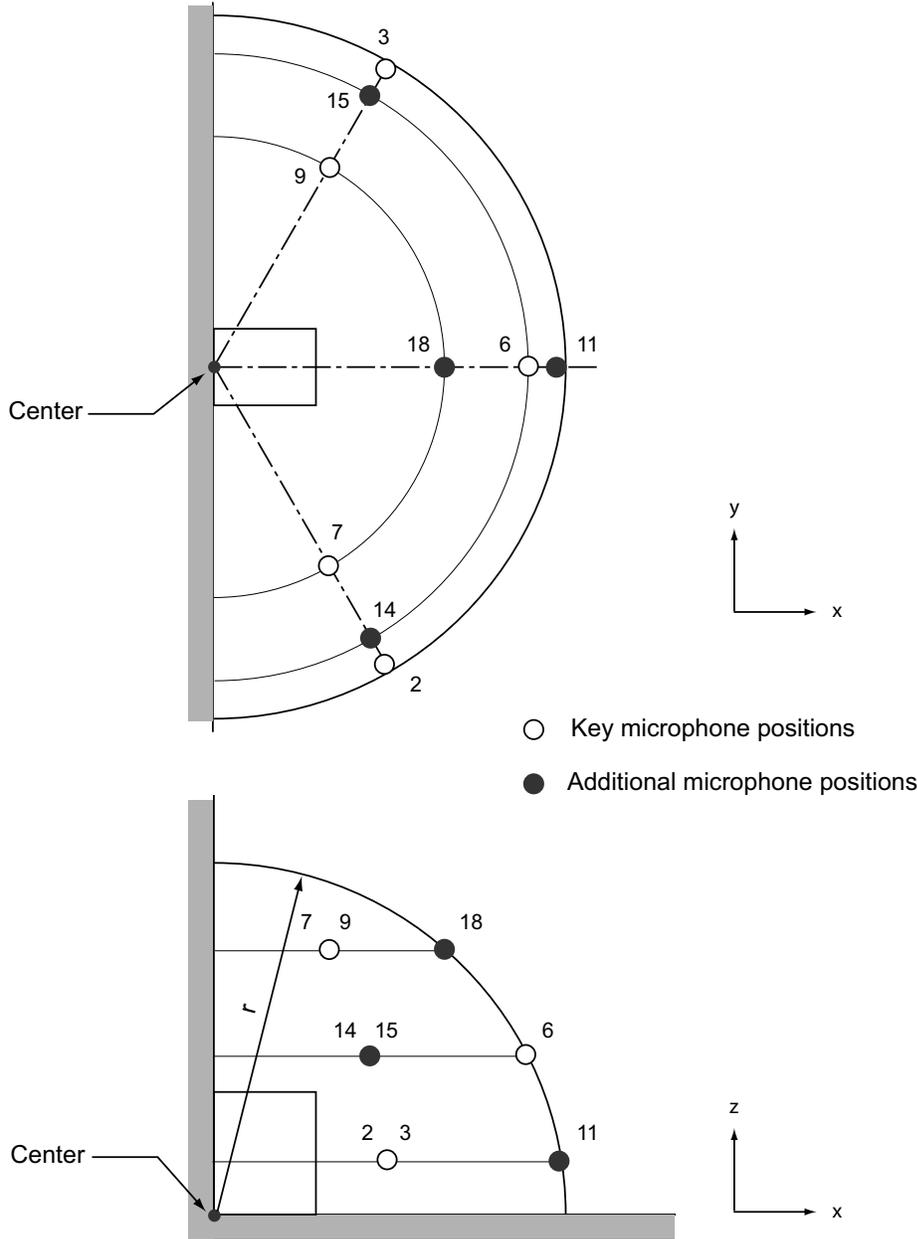

Figure 7.38 ISO3744 - Microphone array on the quadrant.
**Quadrant** Use quadrant measurement surface when the source under test is in front of a wall. Figure 7.38 shows a quadrant measurement surface centered at **Center**. Click on the **Suggest** button to auto fill the measurement surface variables in agreement with the standard. Verify the input you have entered by clicking on the **Check** button. *Coustyx* checks to see if the input variables satisfy the standard requirements. If the standard requirements are not met, a message window pops up to help you make appropriate corrections.
**X-Axis** Specify the orientation of the X-axis here. See Figure 7.38 for definition.
**Y-Axis** Specify the orientation of the Y-axis here. See Figure 7.38 for definition.
**Microphone Array** Figure 7.38 shows a microphone array on the quadrant surface. The microphone positions are listed in Table 7.6.